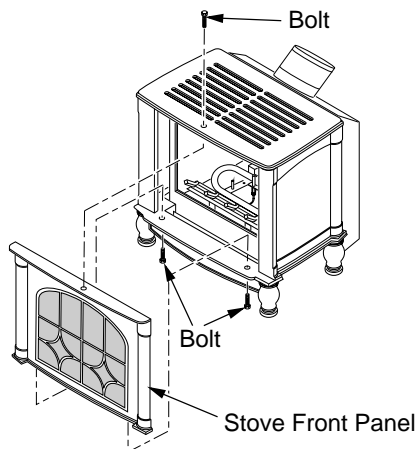

Figure 48 - Removing Front Panel from Stove
1. Remove 2 bolts from bottom of stove and one from the top of stove to remove front panel (see Figure 48, page 22).